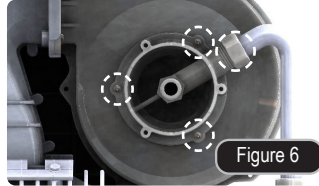

Figure 6
7. Use a crescent wrench and turn the nut of gas inlet pipe to release. And then loosen 3 screws to remove 'MIXER ASSY' KIT'. See Figure 6.
11. Install 'MIXER ASSY' KIT'. Tighten gas inlet pipe using crescent wrench. See figure 6. For correct orientation, ensure the gas mixer packing is in place.